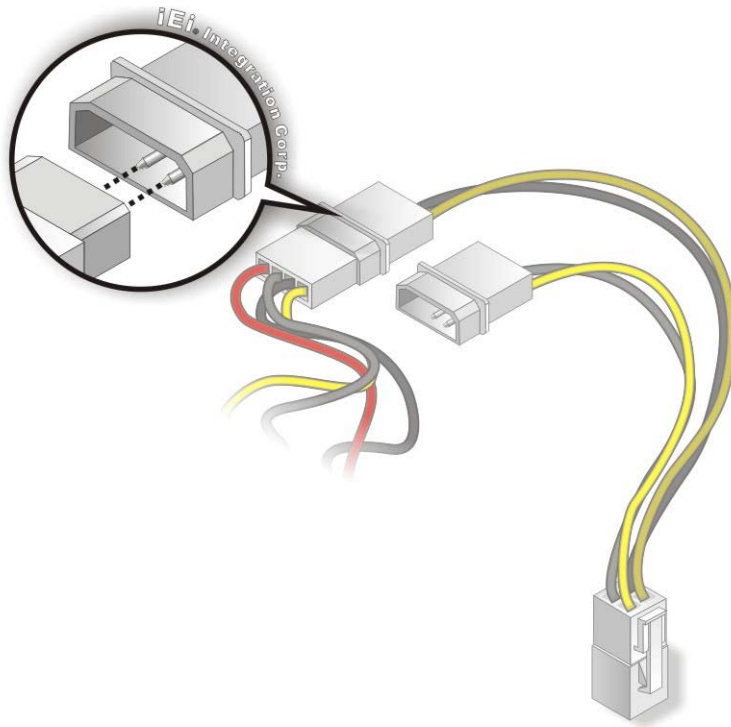

Figure 4-13: Connect Power Cable to Power Supply
Step 3: **Connect Power Cable to Power Supply.** Connect one of the 4-pin (1x4) Molex type power cable connectors to an AT power supply. See Figure 4-13.